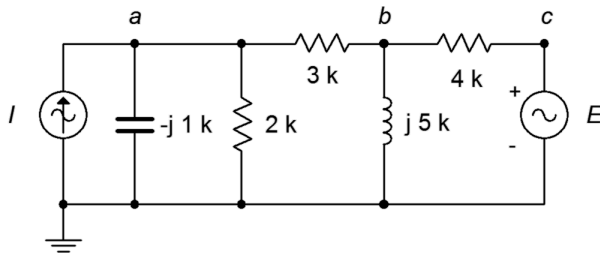

Figure 5.15
29. Use Superposition to determine v_{ab} in the circuit of Figure 5.15. $I = 10E-3\angle 0^\circ$ and $E = 12\angle 0^\circ$.
30. Use Superposition to determine the capacitor current in the circuit of Figure 5.15. $I = 5E-3\angle 0^\circ$ and $E = 18\angle 120^\circ$.